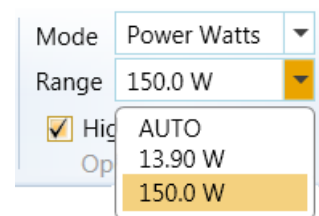

Figure 8-12. Settings for High-Speed Mode
3. **[Home tab]** Click the **Range** drop-down menu shown in Figure 8-12, and select one option from the list: